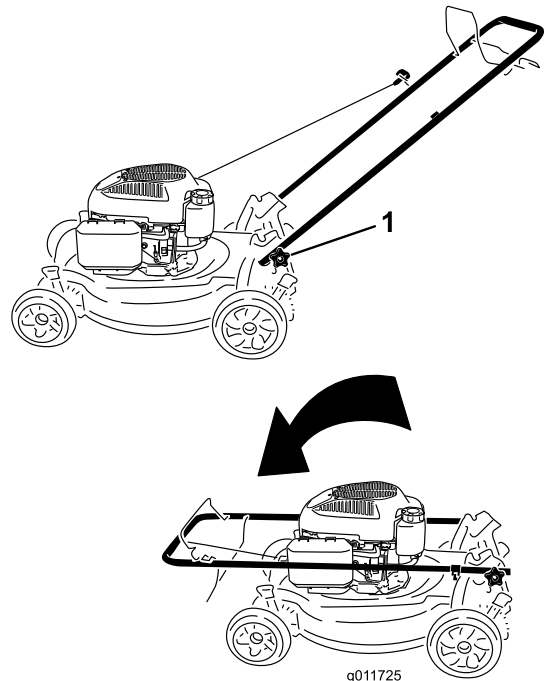

Figure 24
1. Loosen the handle knobs until you can move the handle freely (Figure 24).
1. Handle knob (2)
2. Move the handle forward as shown in Figure 24.